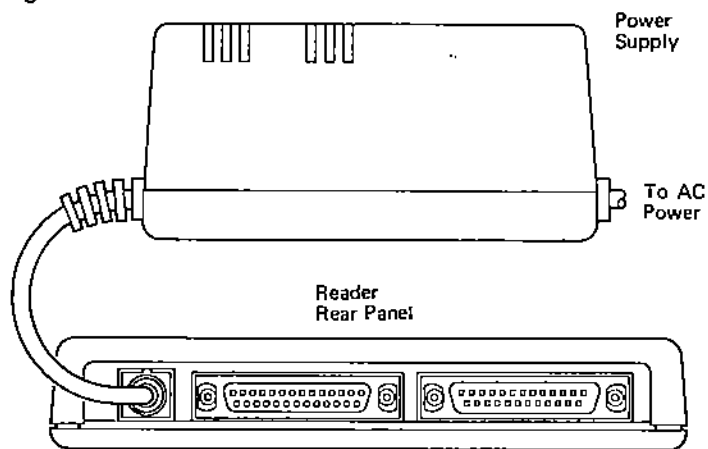

Figure 2-4
1. Locate the power supply connector (Figure 2-4) on rear panel of the wedge reader.